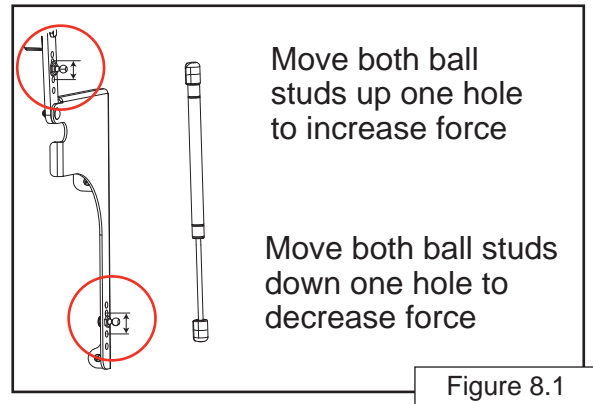

Figure 8.1
- b. Remove both lower ball studs with a $\frac{1}{2}$ " wrench. Raise or lower ball studs one hole (Figure 8.1)